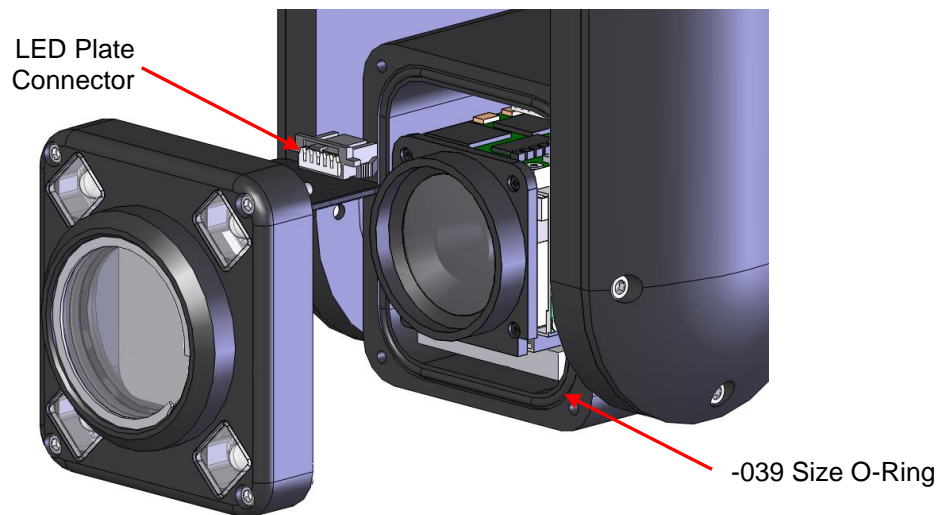

Figure 14: LED Plate Removed
2. The new LED Face Plate Replacement Assembly includes a replacement -039 size O-ring (shown in Figure 14). Replacing the O-ring at this time is recommended. Make sure the O-ring groove is free of dirt and debris. Lubricate the new O-ring with silicone lubricant and insert into the groove as shown.